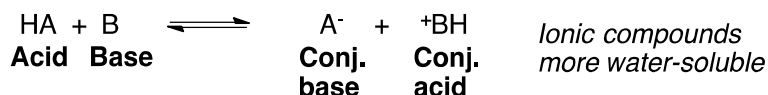

Figure 2. A generic acid-base reaction.
Acids (HA) react with bases (B) to form a conjugate base (A^-) and a conjugate acid (^+BH) (**Figure 2**). It is likely that one or both of the products are ionic compounds, making them significantly more soluble in water than their non-charged counterparts. In this experiment, we will learn how to take advantage of this change in solubility for the separation of a mixture of acids and bases.